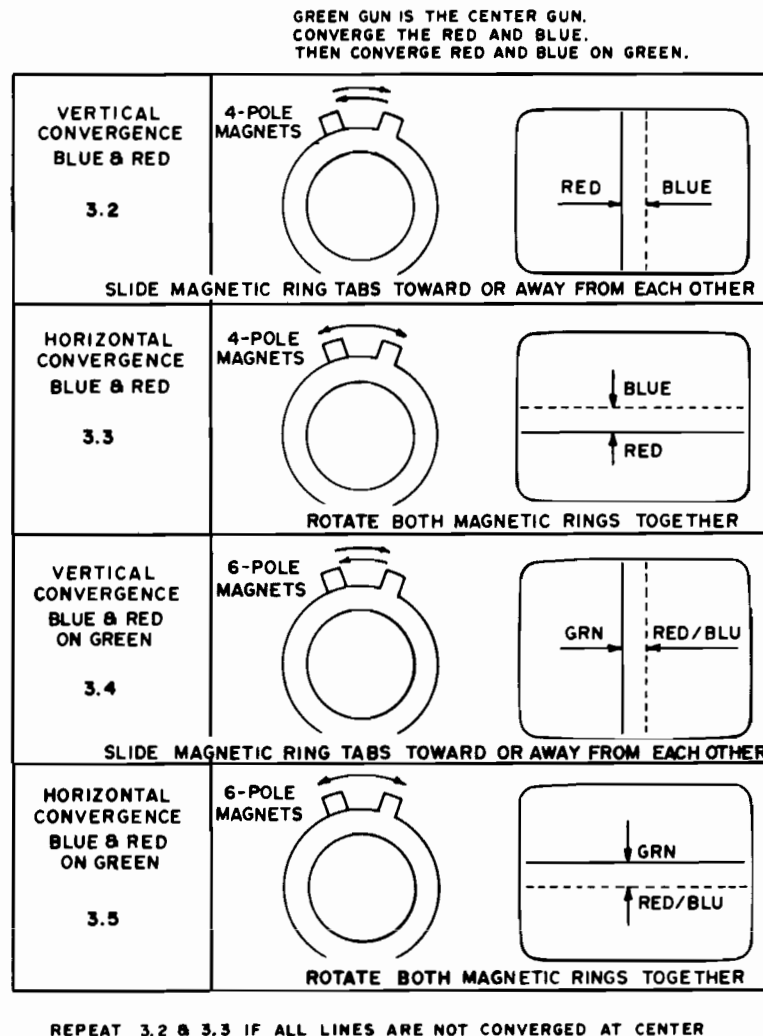
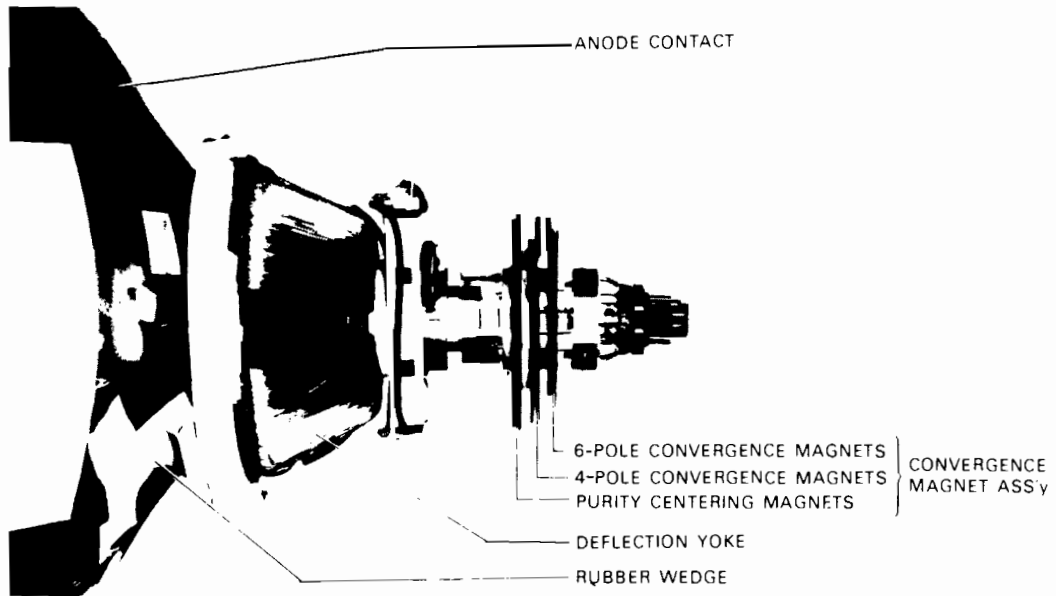

Figure 5 Adjustment of Red and Blue Beams During Static Convergence
Figure 6 Location of Color Purity and Convergence Controls
- 3.2 A pair of 4-pole convergence magnets is provided to converge the blue and red beams (see Figure 6). When the pole opens to the left and right 45° symmetrically, the magnetic field is maximized. Red and blue beams move to the left and right (see Figure 5). Vary the angle between the tabs to adjust the convergence of red and blue vertical lines.
- 3.4 A pair of 6-pole convergence magnets is provided to converge the magenta (red + blue) to the green beams (see Figure 6). When the pole opens to the left and right 30° symmetrically, the magnetic field is maximized. Red and blue beams both move to the left and right (see Figure 5). Vary the opening angle to adjust the convergence of magenta to green vertical lines.